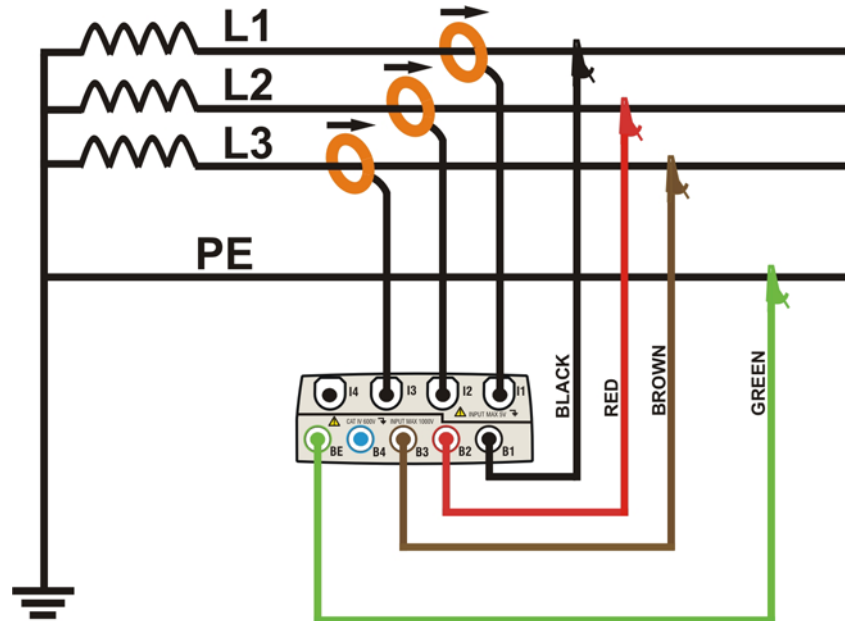

Fig. 207: Meter connection in a three phase 3-wire ARON system
2. Connect voltage test leads on Phases L1, L2, L3, and Ground cables considering the colours as shown in Fig. 207. **Verify the result "123" at display relative to a correct phase sequence indication** (see § 5.2.1) and perform the corrections if necessary.
3. Connect the transducer current clamps on Phase L1, L2, L3 cables as shown in Fig. 207 respecting the clamp's arrow direction indicating the current standard sequence from generator to load. **On Real Time Values' section screens (selecting a 3 wire system preliminarily) always verify the positive value of Active Power and the power factor relative to load which should be normally inductive** before starting a recording. Reverse the clamp by 180 degrees on cables in case of negative readings.